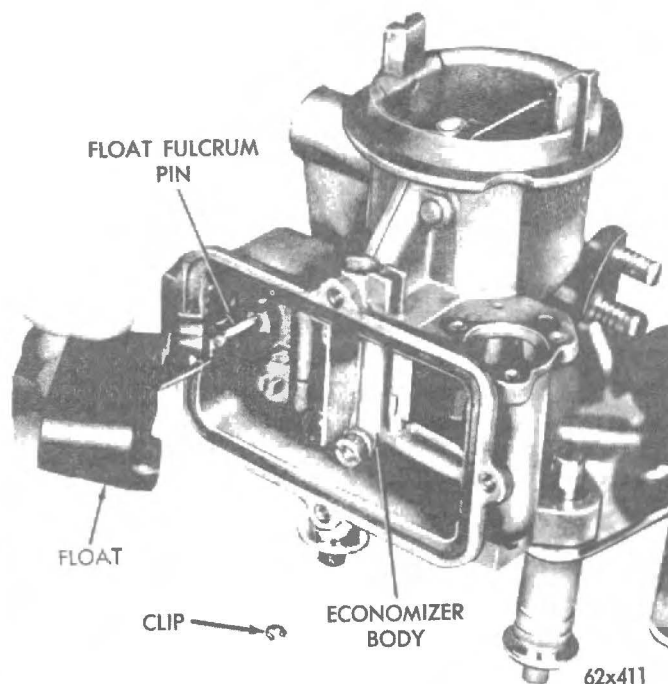

Fig. 14 - Removing or installing float.
(6) Remove spring from float arm. Using a suitable tool, remove the float retaining clip, then slide float off the fulcrum pin, as shown in Fig. 14.
(11) Slide the float into position over the fulcrum pin and secure with retainer clip (Refer Fig. 14). Install float damping spring.
(12) Install the fuel inlet needle, seat and new gasket. Tighten seat securely. Check float setting as follows: